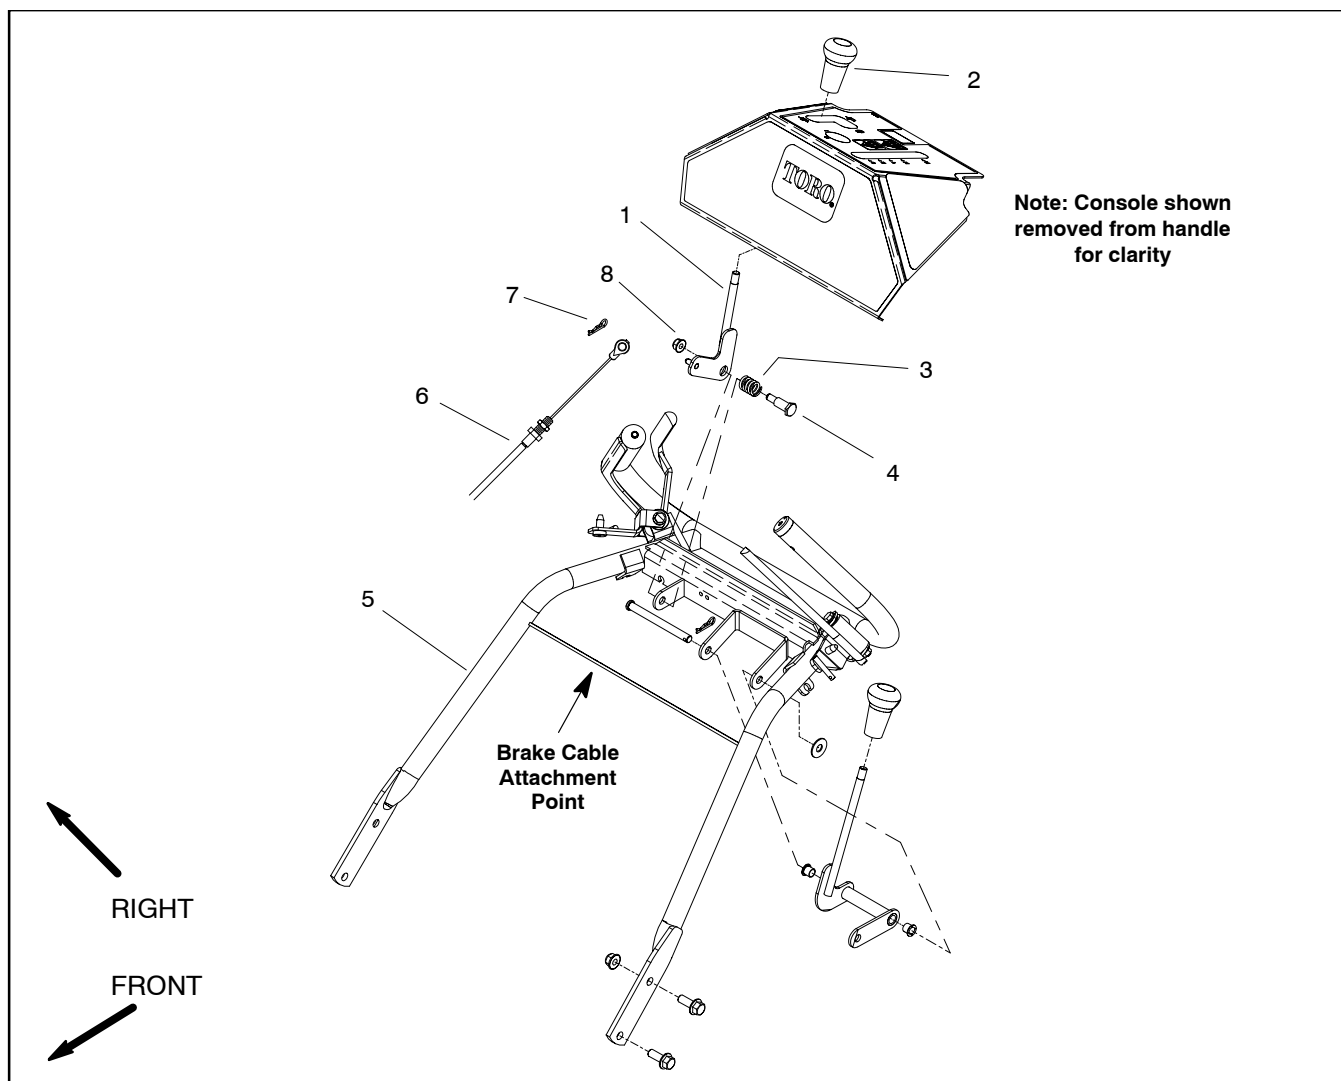

Figure 6
### Removal (Fig. 6)
2. Disconnect brake cable from brake lever (Fig. 6):
### Installation (Fig. 6)
2. Connect brake cable to brake lever on handle (Fig. 6):